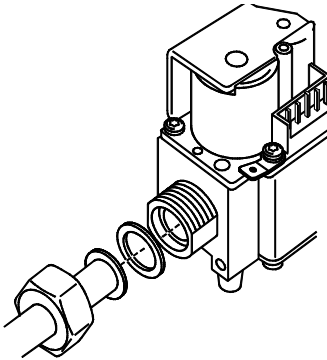

Fig. 5. External thread connection with nut and flat sealing ring
- ❶ With $1/2$ " nut and flat sealing ring for pipe 14 mm (see fig 5.)
- ❷ With $1/2$ " nut and flat sealing ring for pipe 15 mm (see fig 5.)
- ❺ With $3/4$ " nut and flat sealing ring for pipe 15 mm (see fig 5.)
- ❻ With $3/4$ " nut and flat sealing ring for pipe 18 mm (see fig 5.)